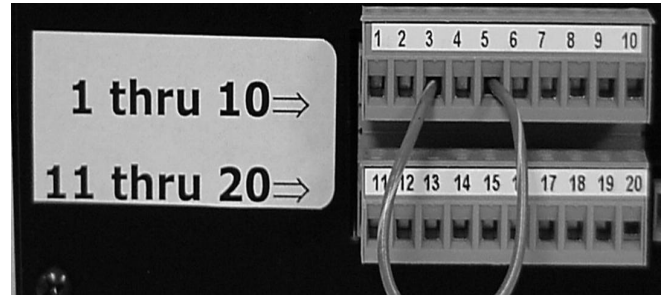

Figure 28. 12 Volt Supply Jumper
1. Install a wire between terminal 5 (extend/retract common) and ground terminal 3 (see Figure 28).